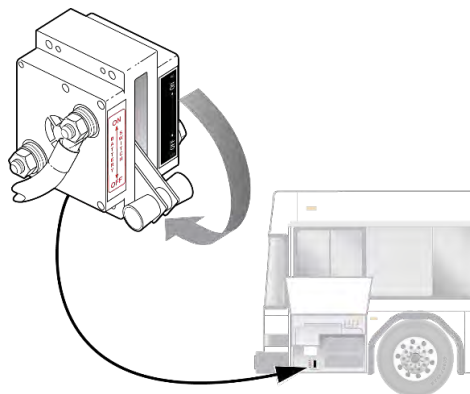

Fig. 2.2
5. Disable the system by flipping the 12/24V front disconnect switch downward, as show in Fig. 2.2: